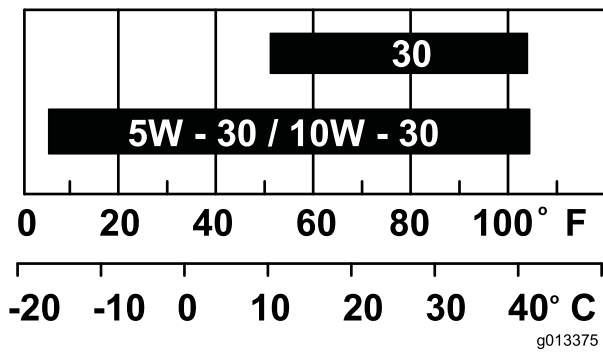

Figure 32
**Note:** Use SAE 10W-30 for general use. You can use the other viscosities shown in the chart when the average temperature in your area is within the indicated range (Figure 32).